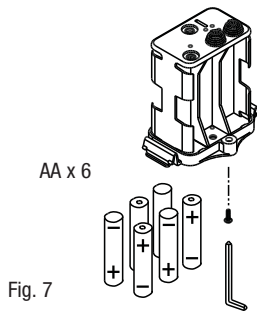

Fig. 7
2. Remove cover from battery box, put 6 pcs of Alkaline AA 1.5V batteries into the battery box, put box back into original casing and close with cover. (Fig. 7)
LED flashes when unit is not used	- Low voltage: Change batteries (Fig. 7) - Sensor is activated constantly. Remove the object below the sensor. - If above does not help, contact your dealer for professional assistance.